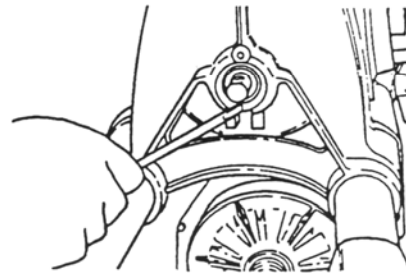
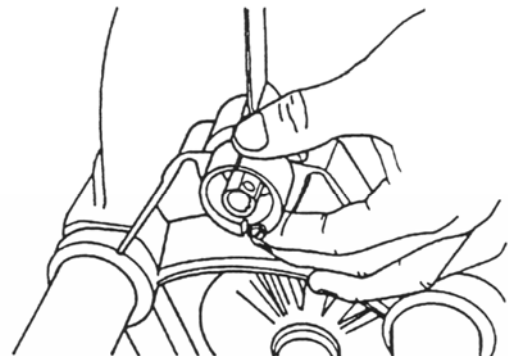

Fig. 11
Fig. 12
4. Insert a medium blade screwdriver into the large slot in the eccentric bushing, and turn the bushing so that the slot points straight down, toward the motor. This will loosen the Poly V-belt. See Fig. 11. Slip the eccentric bushing out of the headstock housing and over the idler shaft. See Fig. 12. You may have to pry the eccentric bushing part way out. Then push the shaft in and finish prying out the bushing. Push shaft to loosen belt.